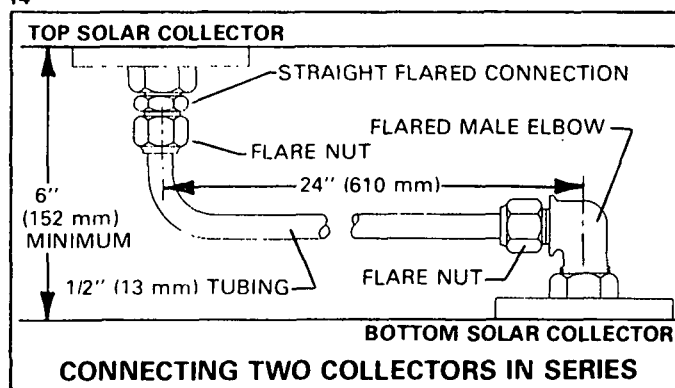

FIGURE 15.
- a - Figure 15 illustrates two solar collectors piped in series. Install a flare male elbow at the bottom collector and a flare male straight connection at the top collector.